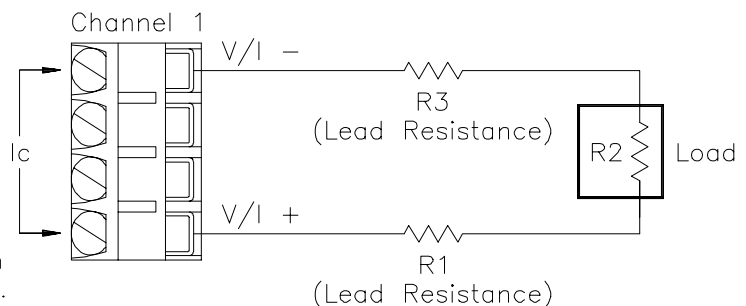

Figure 4-6. Output Current Compliance Voltage
3. Verify that the compliance voltage will not be exceeded by calculating the total circuit resistance using Figure 4-6.
The compliance current is 24 mA. The maximum short circuit current (e.g. $R_2 = 0$ in Figure 4-6) is limited to ≤ 30 mA by the HP E1328A.